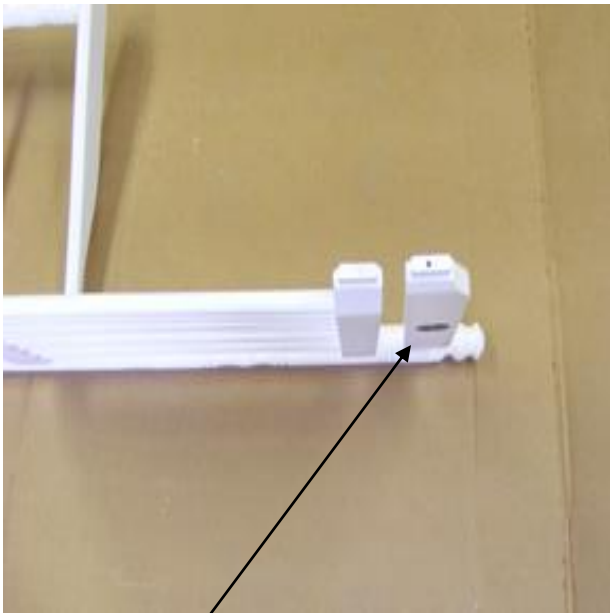

FIG. 3 C
Insert Headrest (C) into the mortise in the Chair Side. Ensure that both the Headrest (C), all Spindles and Chair Back (B) are fully inserted into the mortises. Medallion to the rear. Figure 3